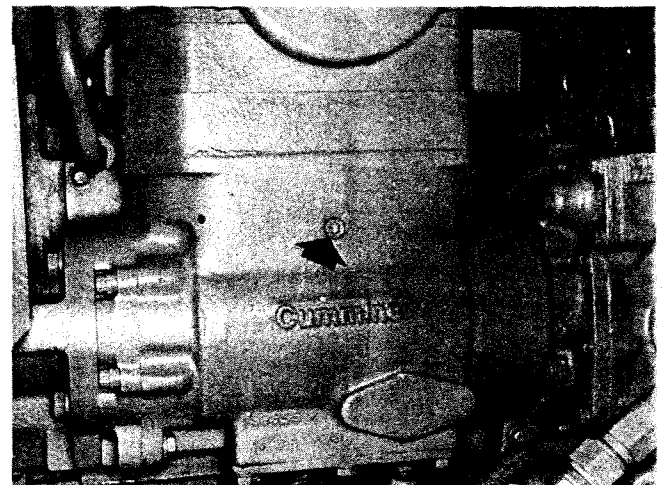

Fig. 1-20, (K21904). Two cylinder air compressor coolant drain
2. Drain cylinder block and heads on all engines by opening petcocks and removing drain plugs as shown in Fig's. 1-13 to 1-19. If an air compressor (Fig. 1-20), heat exchanger or other "water cooled" accessory is used, open petcock and drain. Failure to properly drain engine and accessories may cause serious damage during freezing weather.
An adapter, ST-1224 with 2:1 ratio, in speed switch drive only, (1, Fig. 1-20) is available to drive the speed switch at twice engine speed. This tool when installed in place of the existing adapter permits adjustment to be made to the speed switch at slightly over 1/2 engine and pump speed. This maintains a pump speed well within its safe speed range while adjustments are being made.